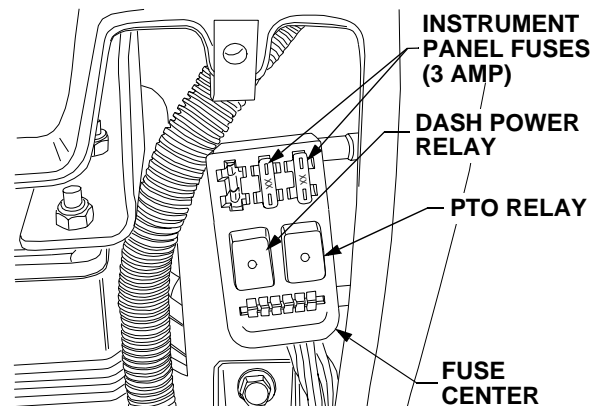

Figure 43
- Pull the two fuses from the fuse center and check their condition. Replace a blown fuse with the same capacity fuse (3 Amp). Refer to Figure 43.
The PTO relay and dash power relay, located in the fuse center, maintain power to each of those circuits. If one of the circuits is not functioning properly, have your dealer electrically check the relay. See Figure 43.